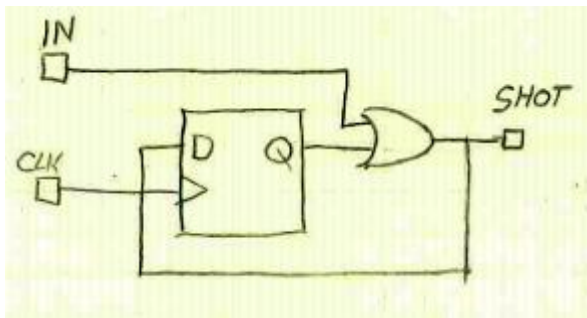

Figure1
- [2 points] Perform the above analysis for Figure 1.